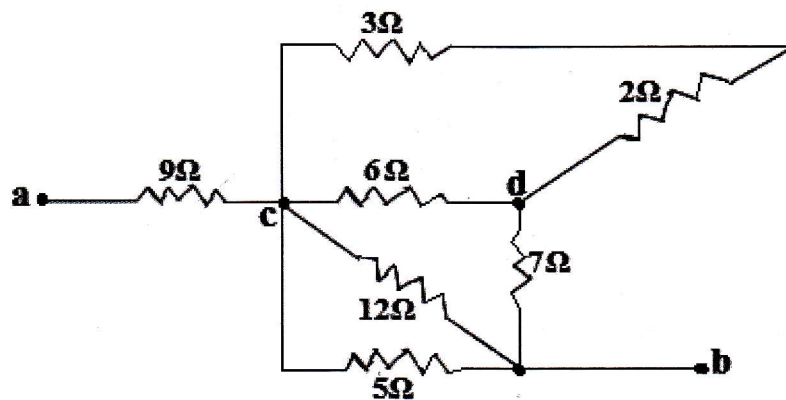

Figure 1
18. Find the equivalent resistance between points "a" and "b" for the combination shown in the figure 1, below.